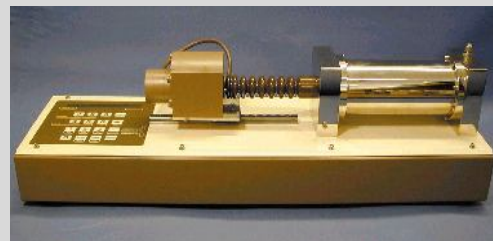

Fig. 6 1000cc air pressure controller (ADVDPCC)
- 1000cc digital air Pressure/volume controller (ADVDPCC) for the application of pore air pressure and measurement of air volume change (see Fig. 6).